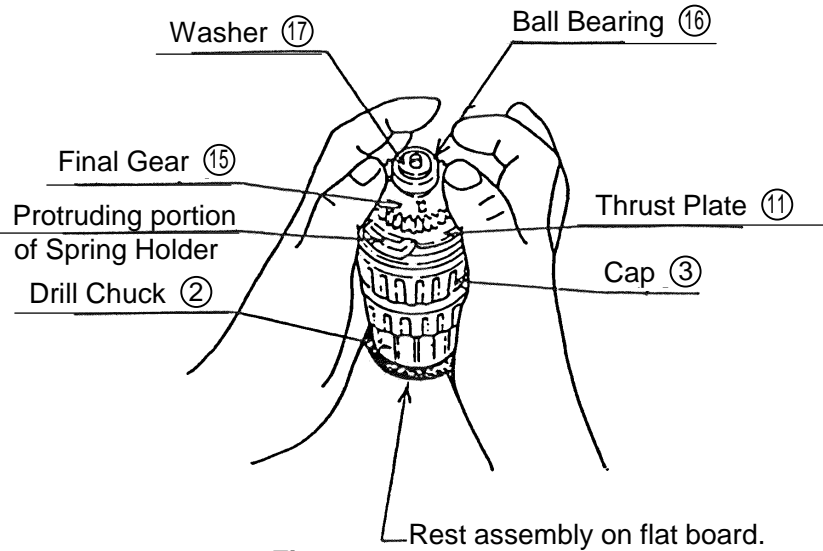

Fig. 13
- [3] Align component positions so that the Thrust Plate ⑪ and the protruding portion of the Spring Holder ⑨ do not overlap. Insert the Final Gear ⑮ horizontally by holding it between the thumbs. (Fig. 13)